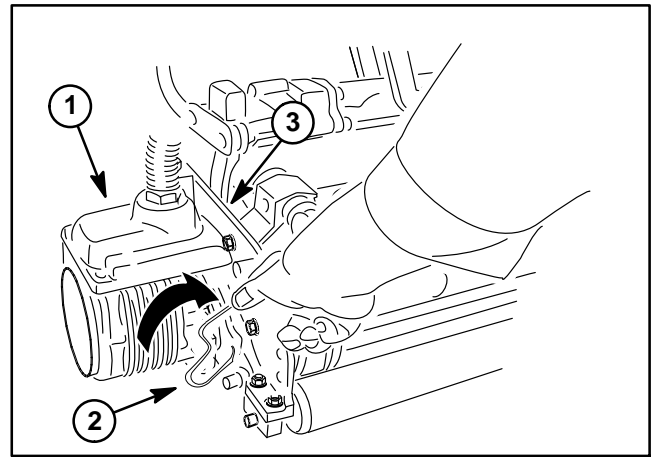

Figure 114
4. Locate and unplug two (2) electrical connectors from motor cable to machine wire harness.
- A. Push the motor clamp out of the slots on the motor mount toward the cutting unit sideplate (Fig. 114).